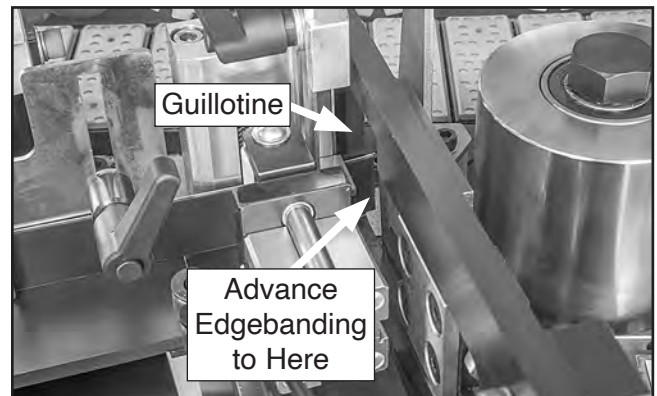

Figure 55. Edgebanding advanced to just beyond guillotine.
9. Advance edgebanding until end is just beyond guillotine (see **Figure 55**).